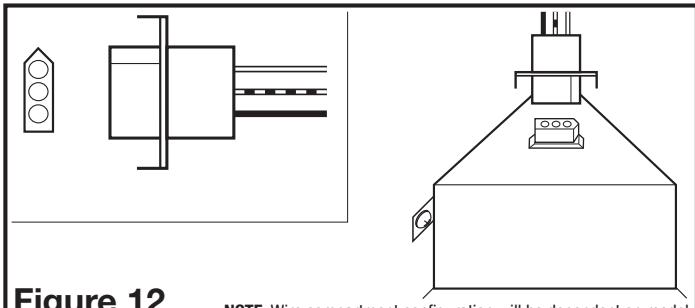

Figure 12
- Plug the fan's quick connect motor cord into the receptacle. This cord will only fit one way into the receptacle (**Figure 12**).